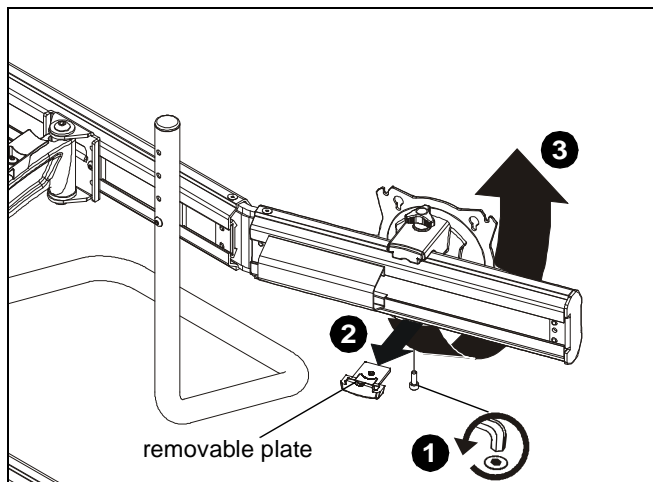

Figure 12
1. Remove socket head cap screw from bottom of faceplate assembly. (See Figure 12)
2. Slide out removable plate from bottom of faceplate assembly. (See Figure 12)
3. Remove faceplate assembly from array arm. (See Figure 12)